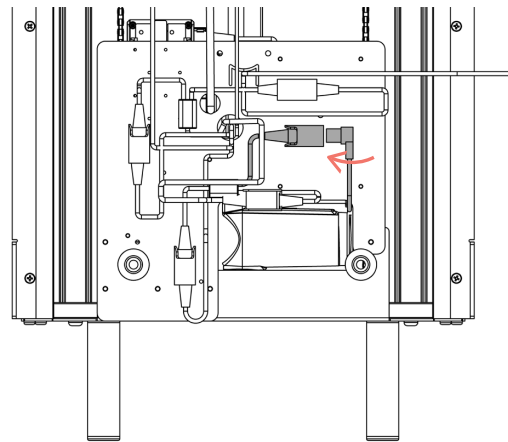

Fig 12.3a
- Looking at the rear of the product, locate the female connector, as shown in Fig 12.3a.